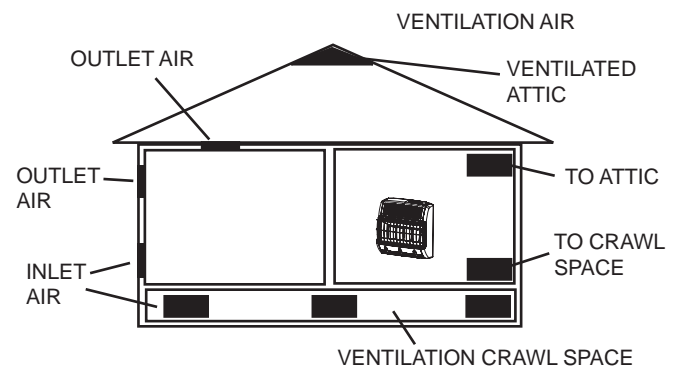

Figure 3.
- B. Vent room directly to the outdoors. See Ventilation Air From Outdoors (Figure 3).